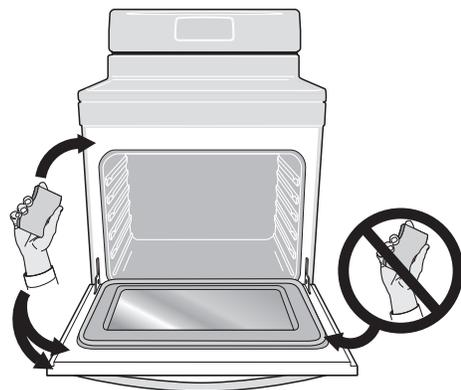

Figure 11: Areas to clean and to avoid
- Do not use oven cleaners or oven protective coatings in or around any part of the oven interior. Clean any soil from the oven frame, the door liner outside the oven door gasket, and the small area at the front center of the oven bottom (See Figure 11). These areas heat sufficiently to burn soil on. Clean using soap and water prior to starting Self Clean.